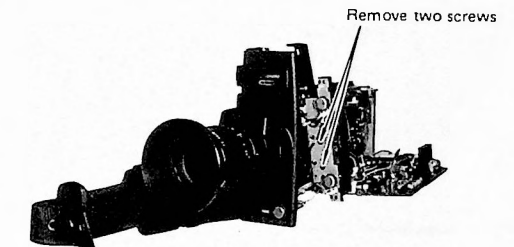

Fig. 7-12
- Remove the two control knobs, and the two screws on the control panel base for removing the control panel from the base. (Fig. 7-12)